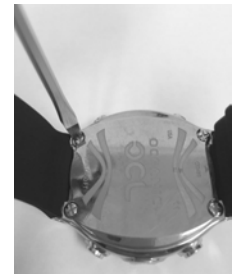

Fig. 133 - CASE BACK
- Remove the (4) retaining screws located on the back of the case (Fig. 133) by turning them counter clockwise with a small flat tip 3mm screw driver.